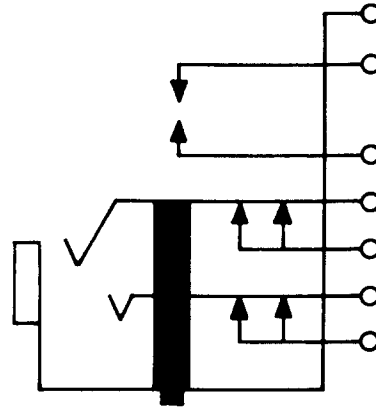

Fig. 8—584-Type Jack
2.08 **584A, C, and E:** These single-mounted miniature jacks (Fig. 8) are suitable for use in equipment where space restrictions are a problem. The springs are made of nickel-silver and equipped